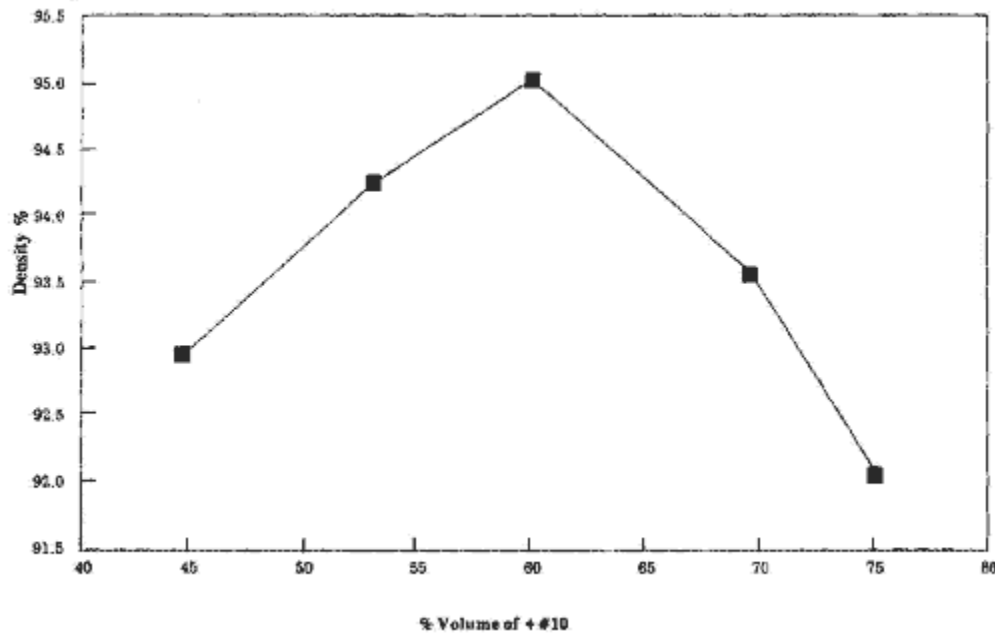

Figure 1—Density vs. Volume + No. 10
- 4.11 Plot the average volumetric proportion of total retained on the 2.00 mm (No. 10) sieve for each set of molded specimens versus their average density. (See Figure 1.)
- 4.12 Pick the point that gives the maximum density on the curve in Figure 1.
- 4.12.1 Draw a line from the peak down to where it intersects the x-axis and read the total volume of + 2.00 mm (No. 10). (See example in Figure 1.)
- 4.13 Add 2.5% to the total volume retained on the 2.00 mm (No. 10) sieve. This value will be the new target used in Part II. (See example in Figure 1.) The new target gradation will be 68.5% by volume retained on the 2.00 mm (No. 10) sieve.